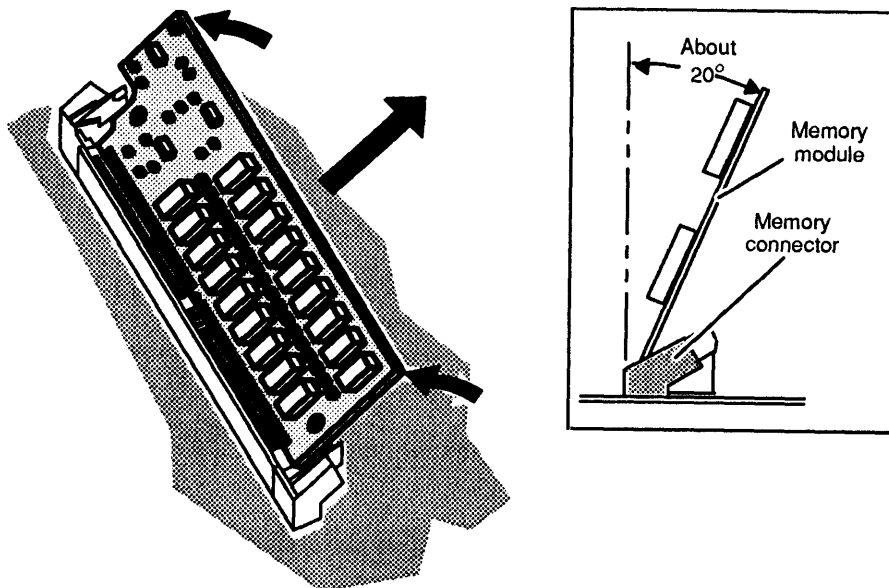

Figure 4-38 Removing a Memory Module
4. With the locking tabs released, raise the memory module to about a 20° angle from the perpendicular, as shown in Figure 4-38. Then *gently* wiggle the module from its connector.